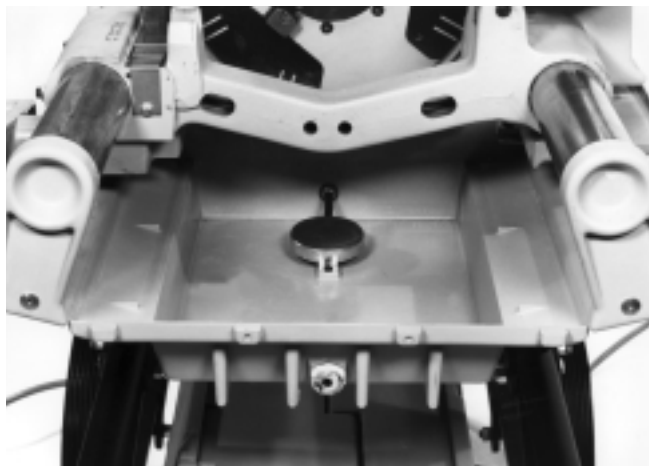

Figure 32 – Cleaning Chip Pan and Oil Filter
2. Clean oil filter screen to assure proper flow of clean oil to work. Oil filter screen is located in the bottom of oil reservoir. (*Figure 32*)
1. Place container under chip pan drain plug. (Figure 32)